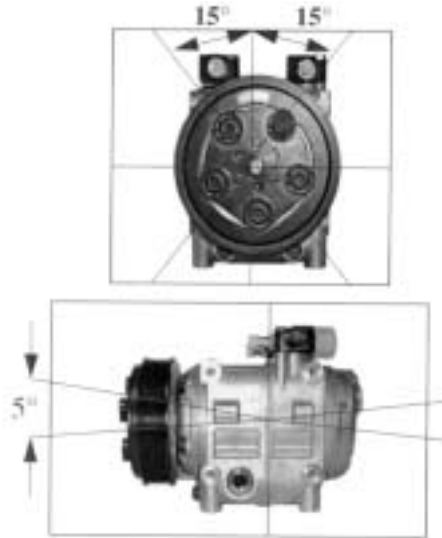

Figure 31: Inclusion Limit
- Within the orientation range shown in Figure 31 on page 52. If the compressor sits outside that orientation for more than one minute, turn compressor manually (slowly) to clear oil from the cylinders.